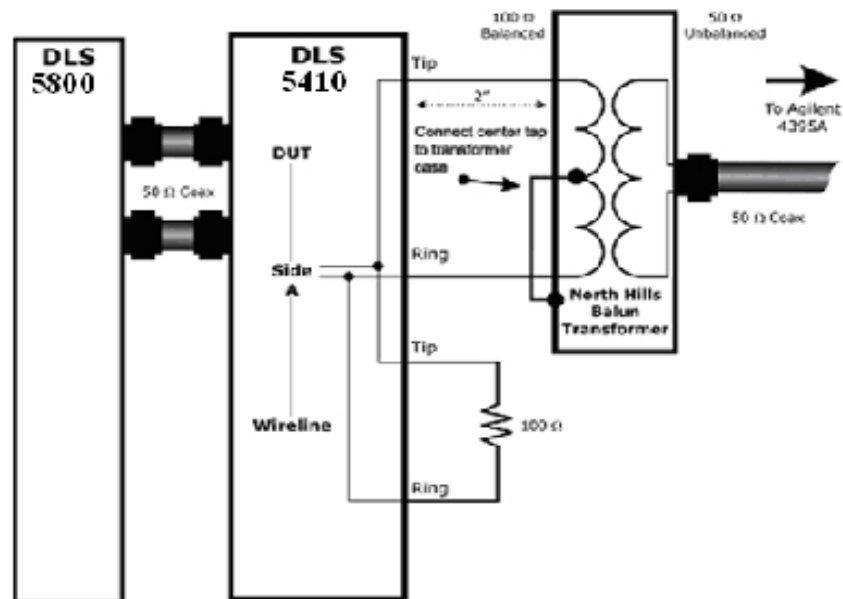

Figure 9-1: Calculating Gain/Injector Attenuation
3. Connect the Noise Injection Circuit as shown in Figure 9-1: Calculating Gain/Injector Attenuation and apply a fixed load to the output of the circuit with a Balun to match the load impedance.